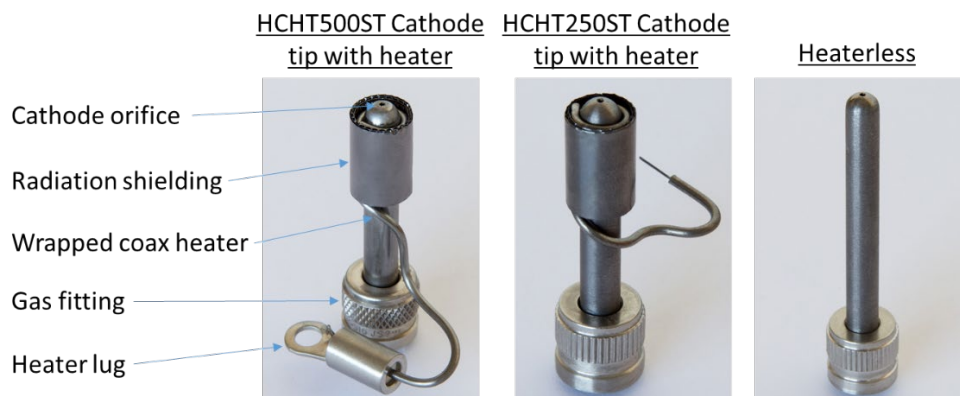

Figure 2. Plasma Controls offers 1/4" heater cathodes as well as a range of "heaterless" options.
For cathodes with heaters, Plasma Controls generally offers cathode tips in 3/16" or larger tubular outer diameter (OD) only. The 1/4" OD cathode tips are called the HCHT250ST and the HCHT500ST. They are virtually the same except for the final wrapping and termination of the coaxial heater winding. They are designed as drop in cathode tips in commonly used ion sources as the neutralizer and source cathodes. See Figure 2 for photos. The HCHT250ST does not have a heater lug on the end of the heater coil.